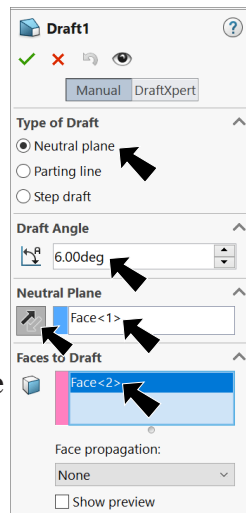

Fig. 58
- under Type of Draft, **Fig. 58**